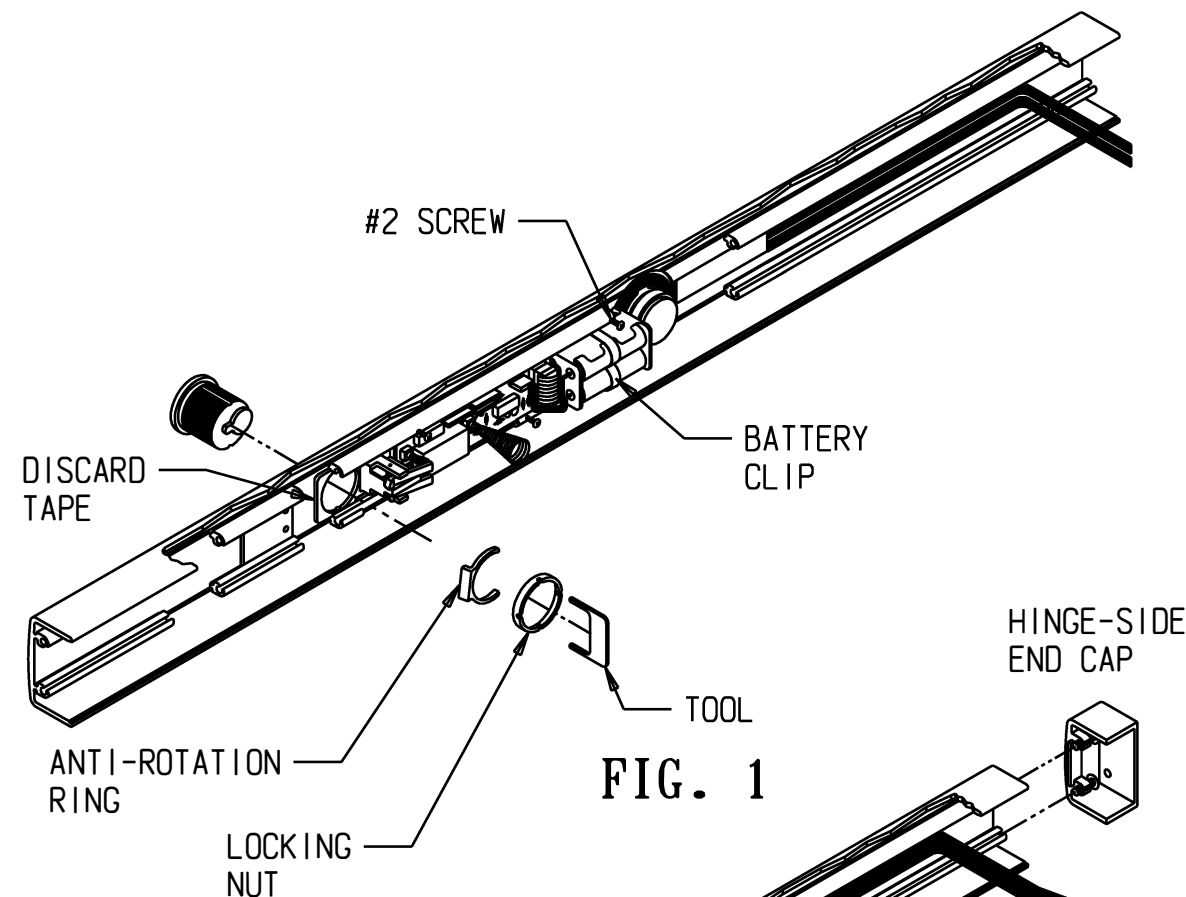

FIG. 1
INSERT BATTERIES (SEE FIG. 1 ON OPPOSITE PAGE)
(SEE FIG. 1 ON OPPOSITE PAGE)
1. INSERT THE MORTISE CYLINDER AND TIGHTEN THE LOCKING NUT USING THE TOOL PROVIDED AS SHOWN IN FIG. 1. THE UNIT WILL ACCEPT FROM 1 INCH TO 1 1/8 INCH LONG MORTISE CYLINDER WITH AN M.S.[®] CAM.
MORTISE CYLINDER (SEE FIG. 1 ON OPPOSITE PAGE)